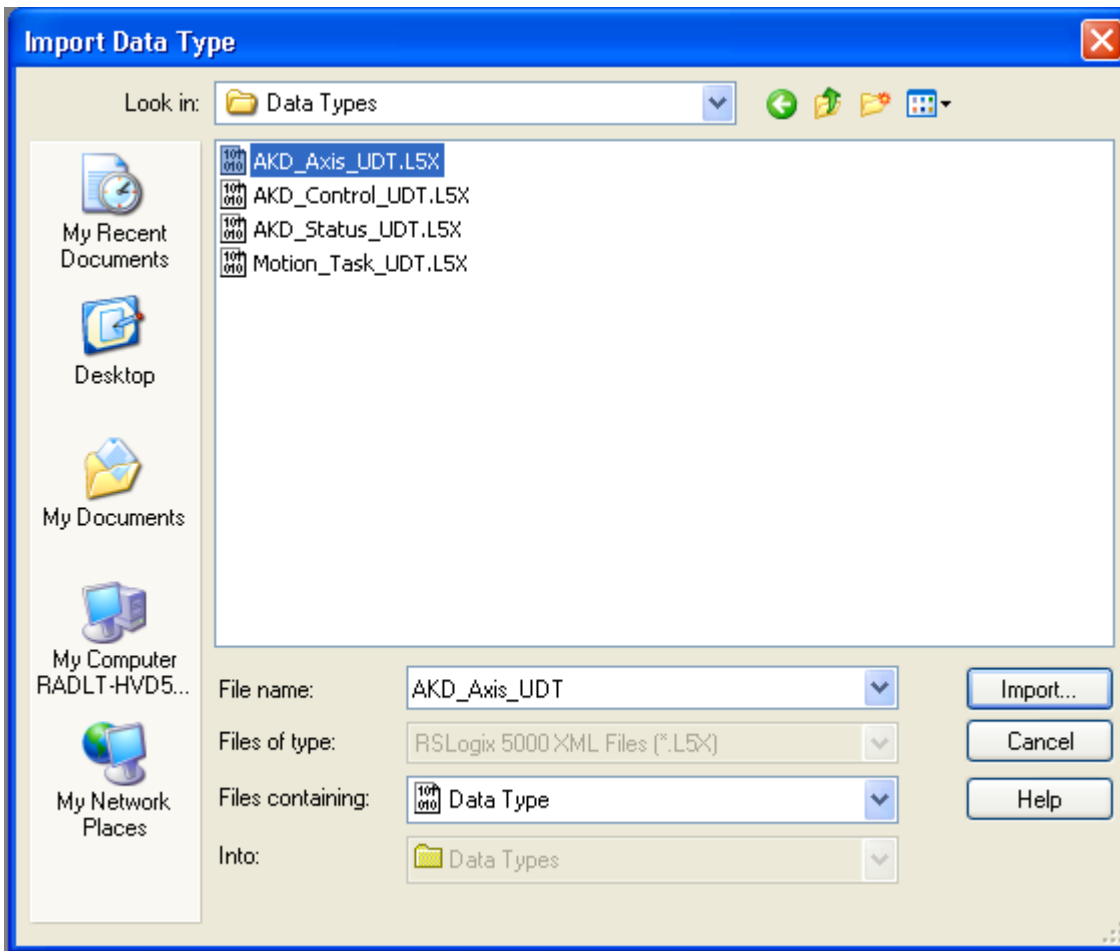

Figure 5-7: Selecting a UDT
2. Browse to the location of the AKD User Defined Data Type library and select the desired User Defined Data Type then click “Import...” (Figure 5-7: Selecting a UDT)